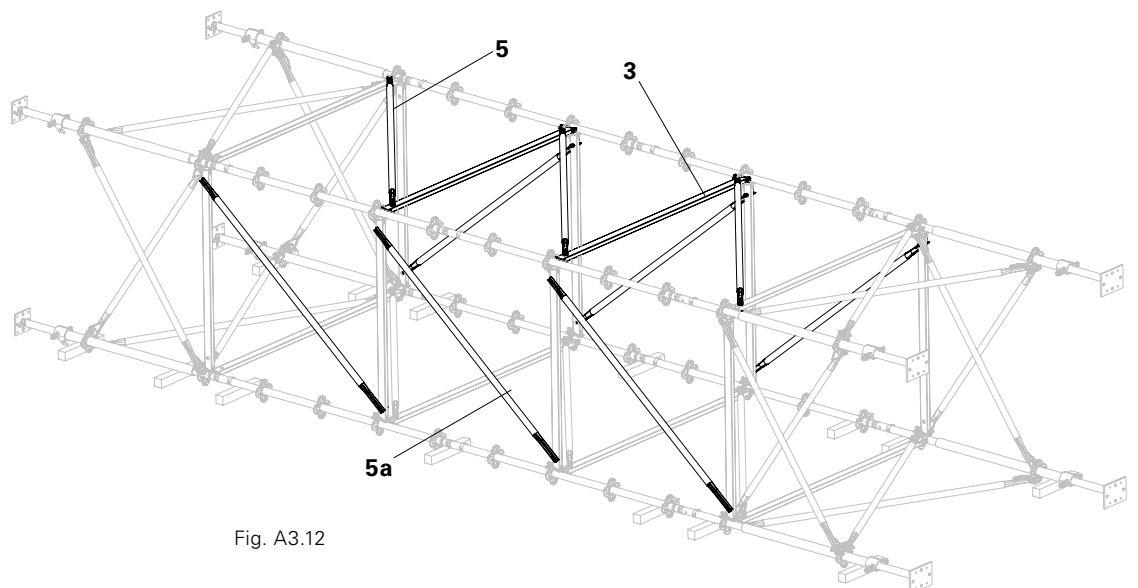

Fig. A3.12
11. Brace Standards by means of Ledgers (3) and Ledger Braces (5, 5a).
- (Fig. A3.12)